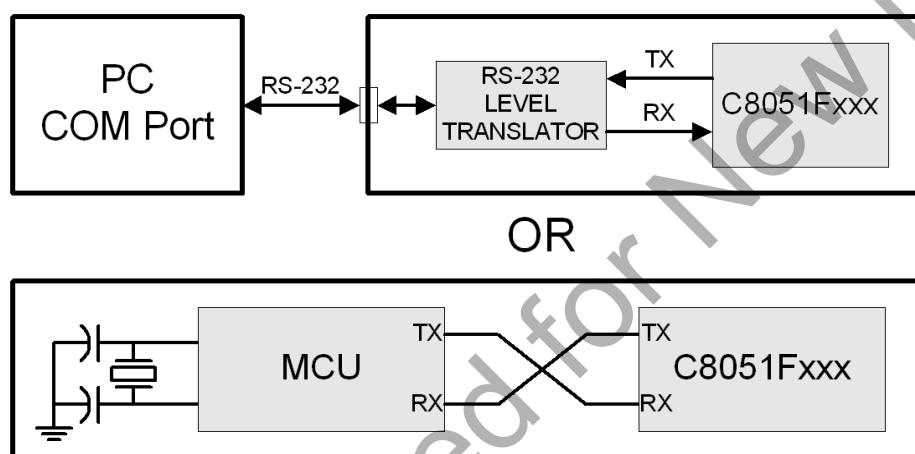

Figure 26.5. Typical UART Interconnect Diagram
In typical UART communications, The transmit (TX) output of one device is connected to the receive (RX) input of the other device, either directly or through a bus transceiver, as shown in Figure 26.5.